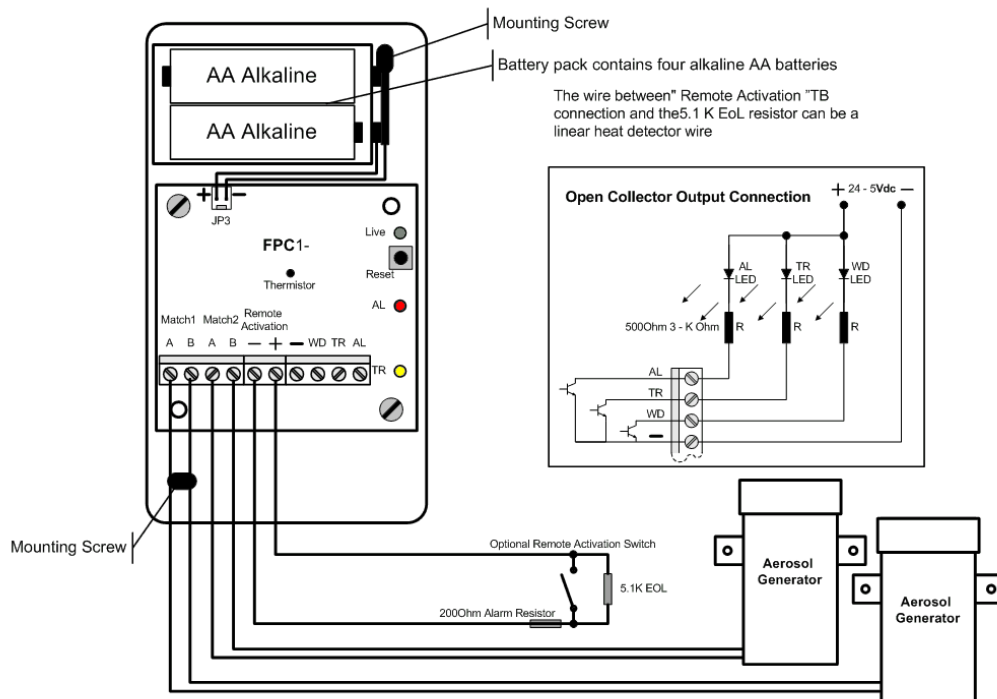

Figure 2 FPC-1 Connection
2. Secure the module to the top surface of the protected space (see Figure 2 on page 2 for location of the openings for mounting screws).
4. Connect the optional remote activation switch to the "Remote Activation" terminal, if required. Connect the 5.1K End of Line resistor to the switch as indicated by Figure 2. If the system is supervised by a Building Management System (BMS), connect the Alarm (AL), Trouble (TR), and Watchdog, (WD) open-collector outputs to the appropriate BMS inputs. Secure the cable mechanically with a tie wrap. Insert four alkaline AA batteries in the battery pack and connect it to connector JP3 (see Figure 2).
- A manual activation switch – remove the End of Line resistor and install it at the switch as shown in Figure 2.